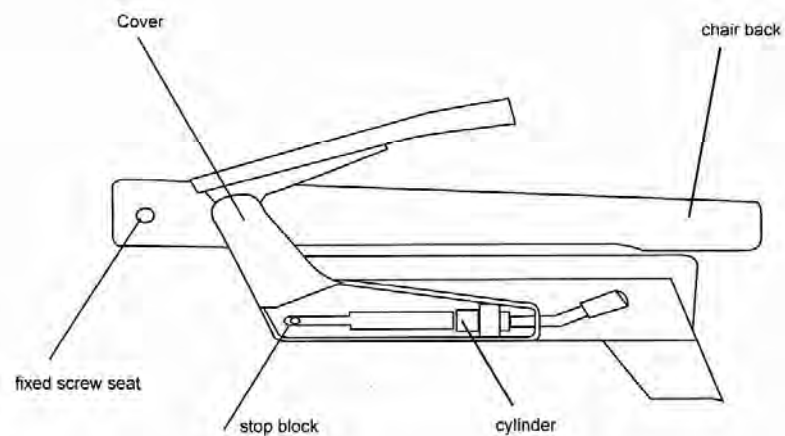

Fig. 1
1. Installation of chair back (Fig. 1)